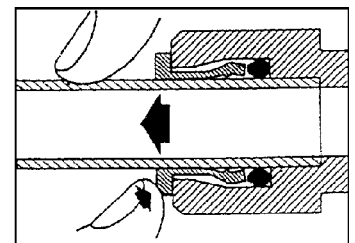

FIG. 3C
2. To remove a tube, push and hold the collet against the fitting body and pull the tube from the fitting. (Figure 3C).